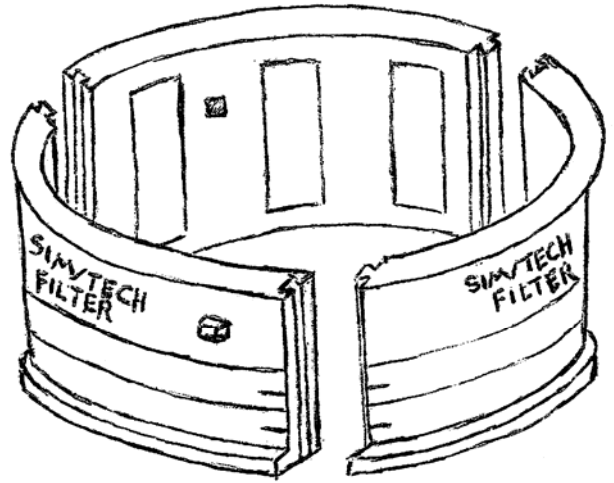

Figure 3.1
1. Place 3 sections in a circle with the Sim/Tech logo up and to the outside of each section (refer to Figure 3.1). It is recommended that a PVC or ABS cement be used on dovetails for assembly. If using cement to join dovetails, only do one joint at a time applying cement to both surfaces and assembling quickly. **This cement sets fast!**